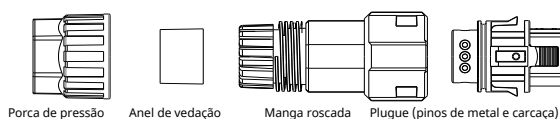

FIG.3 Componentes do Conector
- 1) Diagrama do conector, conforme FIG.3.